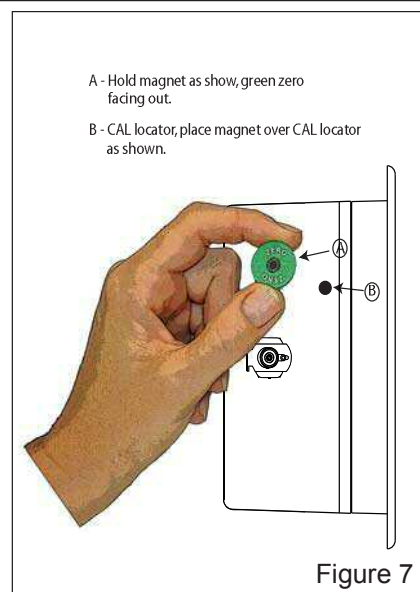

Figure 7
- 2 Hold the magnet as shown in figure 7, make sure the green ZERO part of the magnet is facing out.